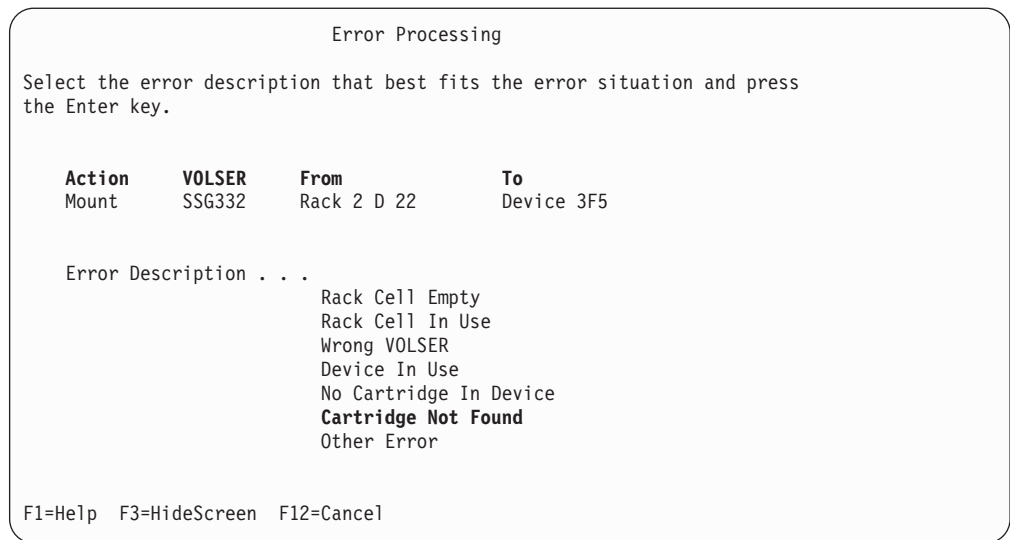

Figure 147. Manual Mode Error Processing Screen
3. Select the error description that best fits the problem. Use the up or down arrow keys to highlight the error description. See Figure 147 on page 237.